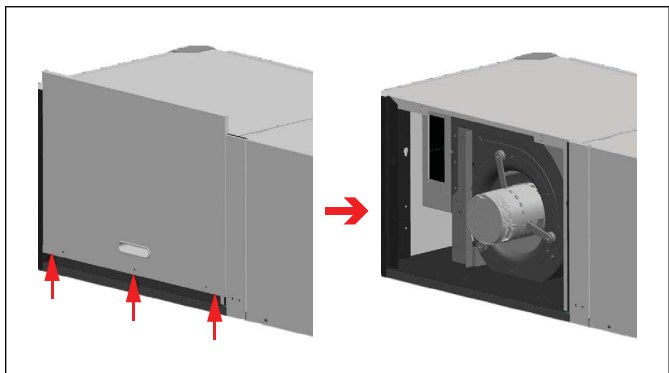

Figure 18
7. Once these three screws have been removed, slide the panel up and remove (figure 18).